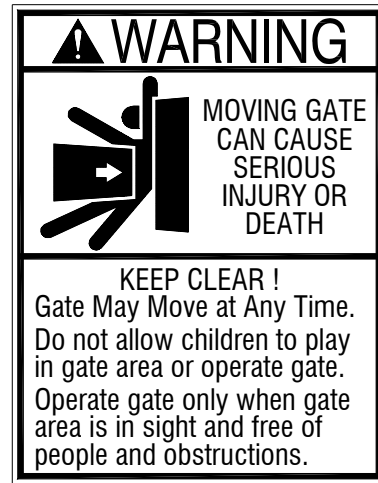

Figure 4
- SECURELY ATTACH THE WARNING SIGNS provided with the GS4000 on the gate (one on the outside and one on the inside) where they can be seen by persons in the area of the gate to alert them of automatic gate operation. (If the user refuses to have the warning signs installed, Allstar recommends that you note this on your records and have the user sign a disclaimer.) See Figure 4.